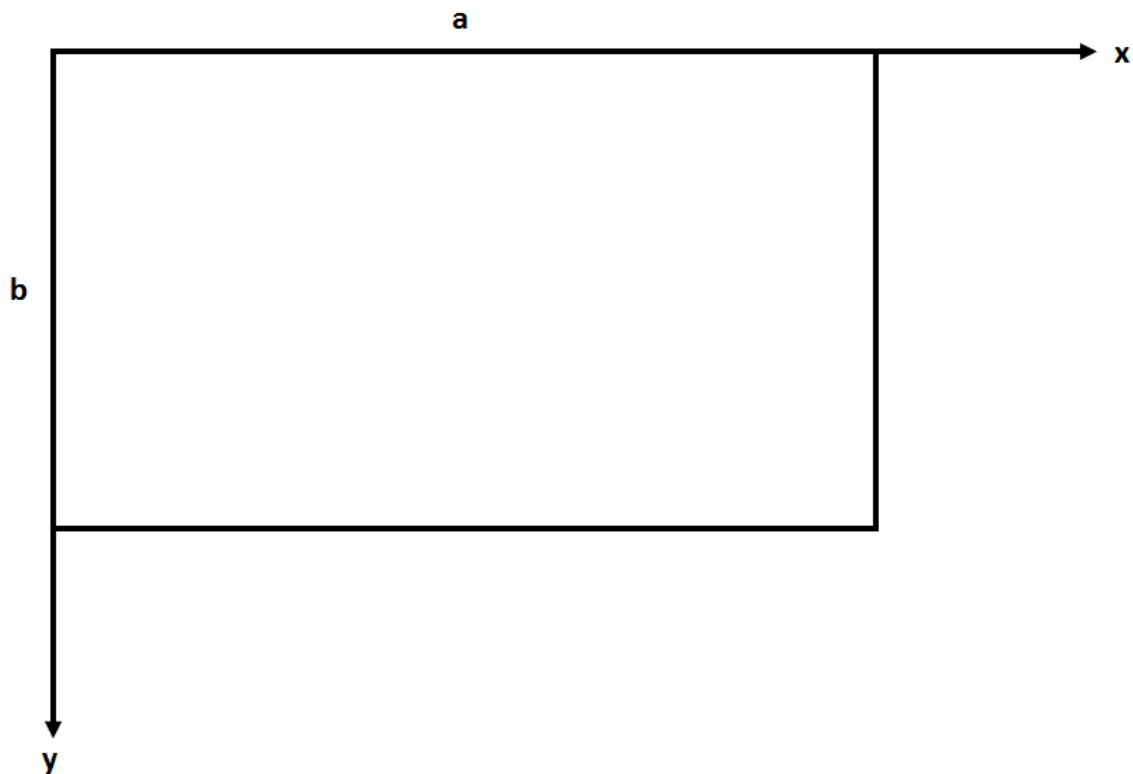

Fig. Q 3 (d)
- d. Determine the maximum deflection and bending moments of a simply supported plate as shown in Fig. Q 3 (d) due a uniformly distributed load q_o . [12 marks]